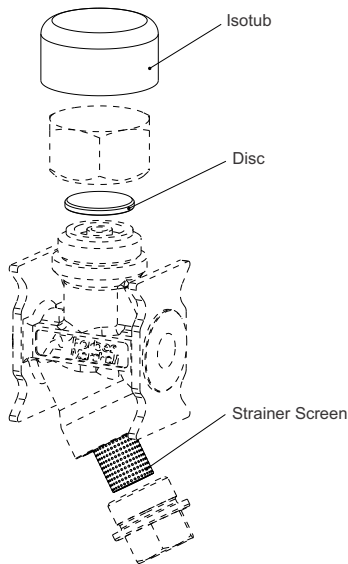

Figure 5: Parts Available as spares (Heavy outline) for FMTD64-S
9. Available Spares: (Ref. to fig.5)